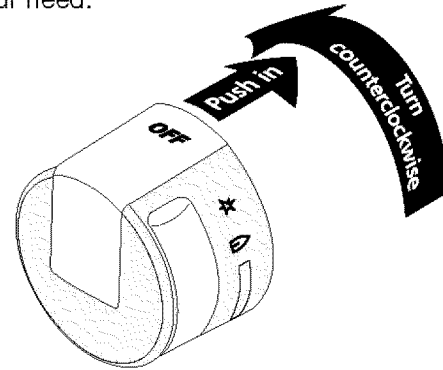

Fig. 1
1. Push the desired gas surface control knob in and turn counterclockwise out of the OFF position - Fig.1.